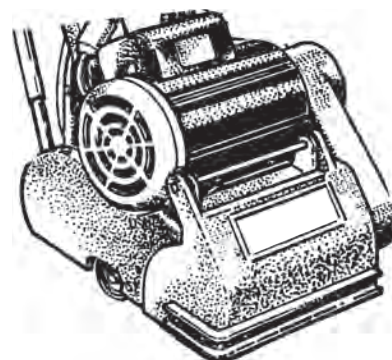

Figure 4
6. Lift chassis with transport handles and place in cargo area. See figure 4.